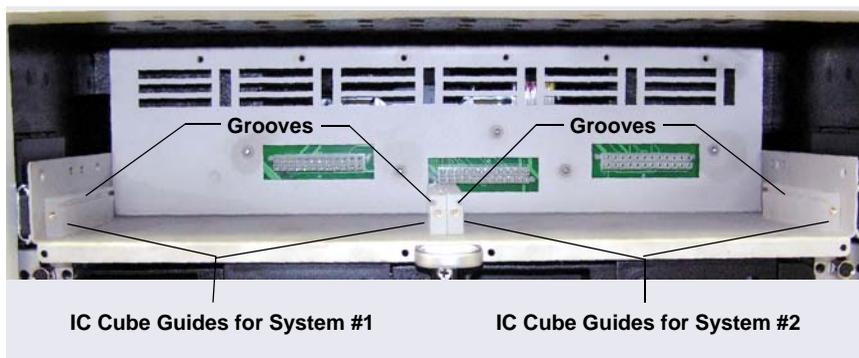
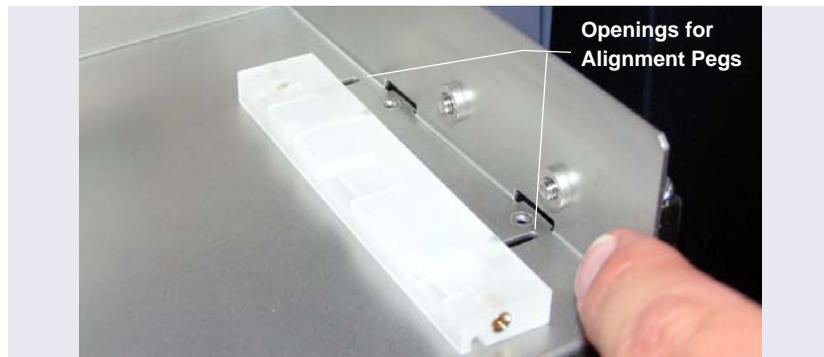

Figure B-31. IC Cube Guides Installed in DC Upper Compartment
Figure B-33. Openings for IC Cube Guide Alignment Pegs (Right Side of DC Upper Compartment Tray Shown)
5. For reference, Figure B-31 shows the completed installation of four guides (for two IC Cubes) installed in the upper compartment of the DC.
- b. Orient the guide with the grooved edge on top and facing in (toward the IC Cube mounting location) (see Figure B-31). Align the pegs with the openings on the bottom of the DC upper compartment tray. The openings for the guides on the outside edges of the tray are slotted (see Figure B-33). The openings for the guides in the center of the tray are round.